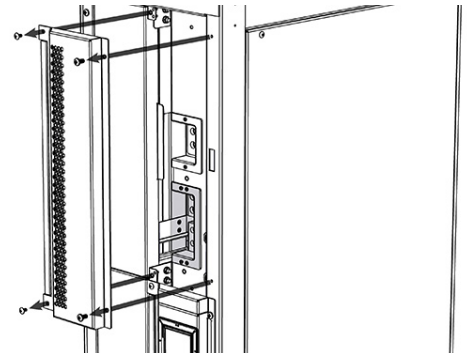

Figure 38. Center Panel
- Step 1.** Remove the center panel by loosening the four pan head screws (see Figure 38).